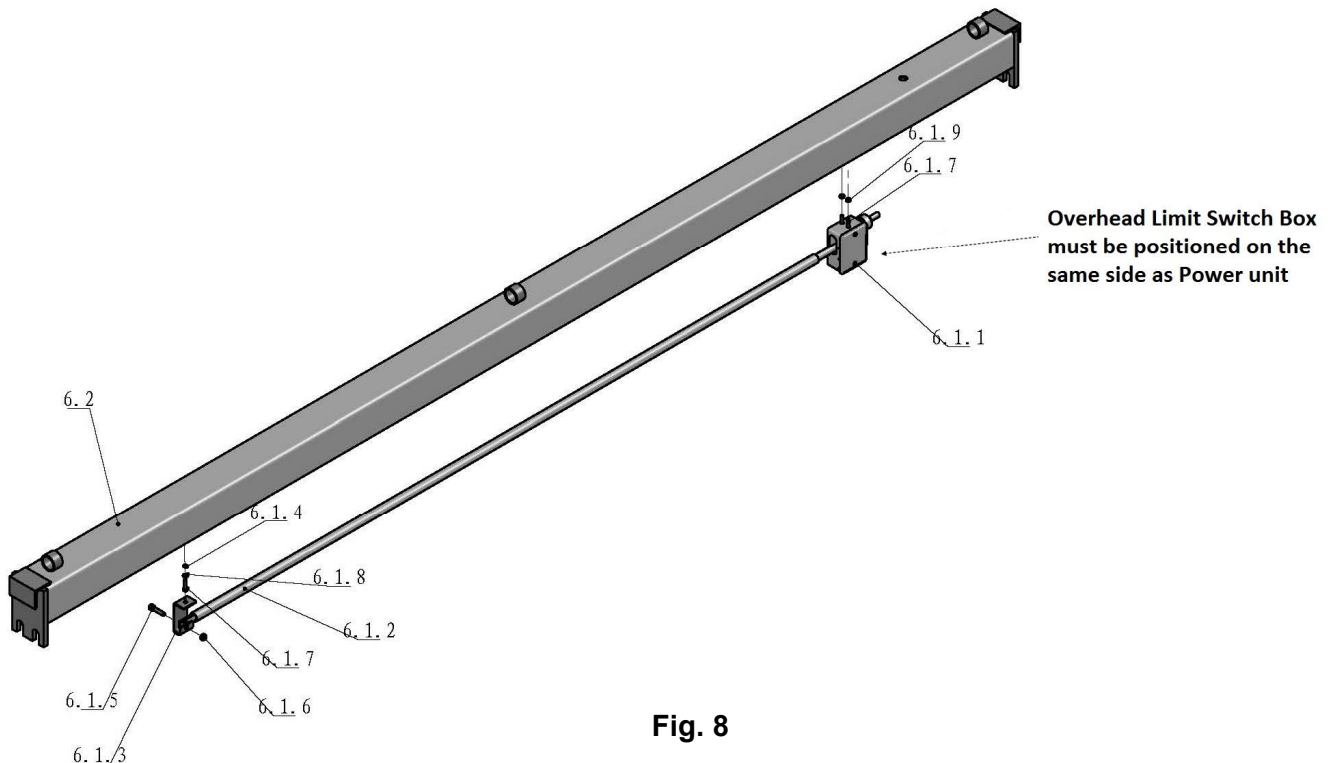

Fig. 8
2. Assemble and mount the Overhead padded Shut-Off Bar & Limit Switch assembly to the Overhead Beam, as shown below in **(Fig 8)**.